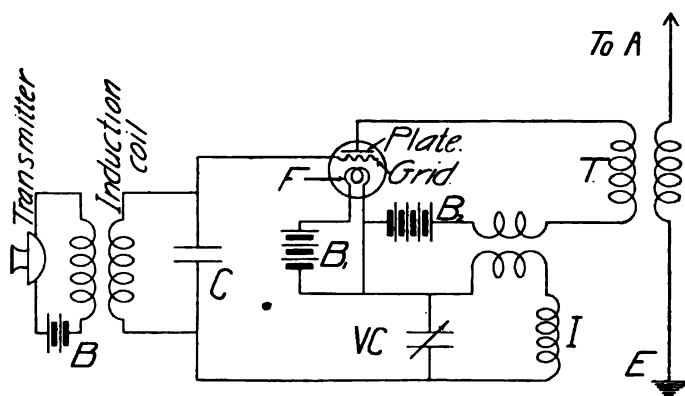
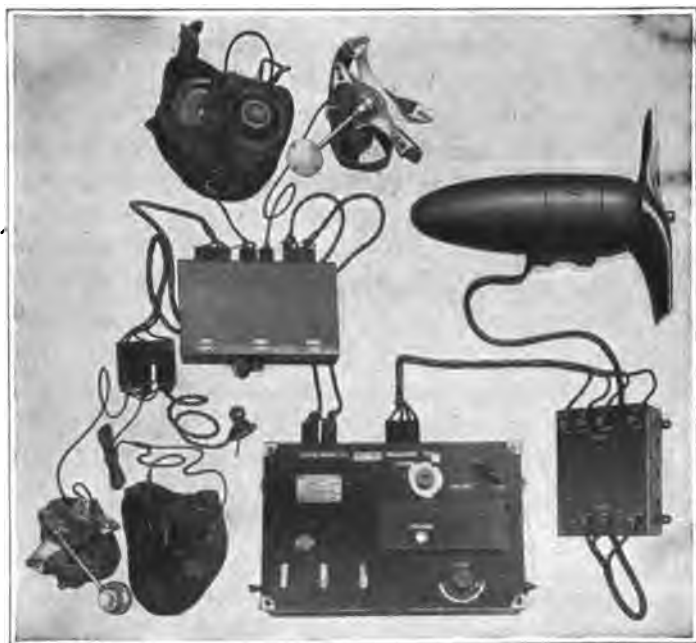

FIG. 428.—Diagram of wireless telephone transmitting set.
FIG. 429.—View of wireless telephone set.
**427. The Vacuum Tube or Audion.**—The device by which all of this is accomplished is the *vacuum tube*. (See Fig. 426.) This tube contains three electrodes. *First*, a *filament* (*F*, in Fig. 428) which is heated by a
current from a battery ( $B_1$ , Fig. 428) and because it is heated, sends out a stream of electrons. *Second*, the *plate* which forms the anode of the circuit from battery,  $B_2$ . This plate receives the electrons which are thrown off by the heated filament, hence a current flows through the circuit of  $B_2$ ; the discharge through the tube depending on the e.m.f. between the filament and the
plate. *Third*, a *grid* is placed between the filament and the plate and is connected to the *secondary* of the induction coil, the primary of which is connected to the transmitter. When the transmitter diaphragm is vibrating, the e.m.f. induced in the secondary of the induction coil causes a variation in the potential of the grid. This means a variation in the electric field between the filament and the plate. (See Fig. 428.) The changing electric field causes a variation in the discharge of electrons through
the tube; the variation corresponds to the vibrations of the transmitter diaphragm. This produces a surging current of the frequency of the sound waves in the primary of the transformer (*T*, Fig. 428). The secondary of this transformer is connected to the antennæ (*A*) and the earth (*E*). By means of the transformer, rapid surgings are set up in the antennæ and these surgings produce a continuous stream of electromagnetic waves which goes out in space. (Like Fig. 426C.) These electromagnetic waves produce oscillations in the antennæ of a receiving station. The antennæ transmit the impulses to a *tube* (Fig. 427) which acts
sending current through the plate and filament. In operation, the filament and the plate are connected to a battery with a *condenser* (*VC*) and an *inductance coil* (*I*) in the circuit, as shown in Fig. 428. Photograph of a complete modern wireless telephone set is shown in Fig. 429.